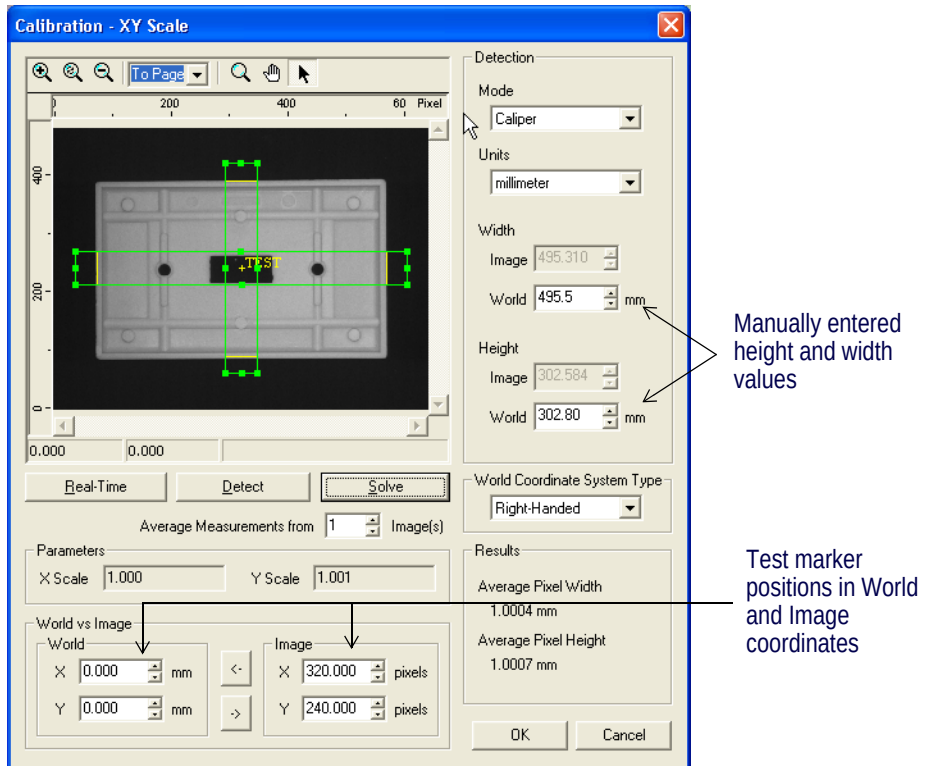

Figure 220 XY Scale Calibration Dialog
2. Click **Show Calibration Dialog** to open **XY Scale Calibration** dialog. See Figure 220.